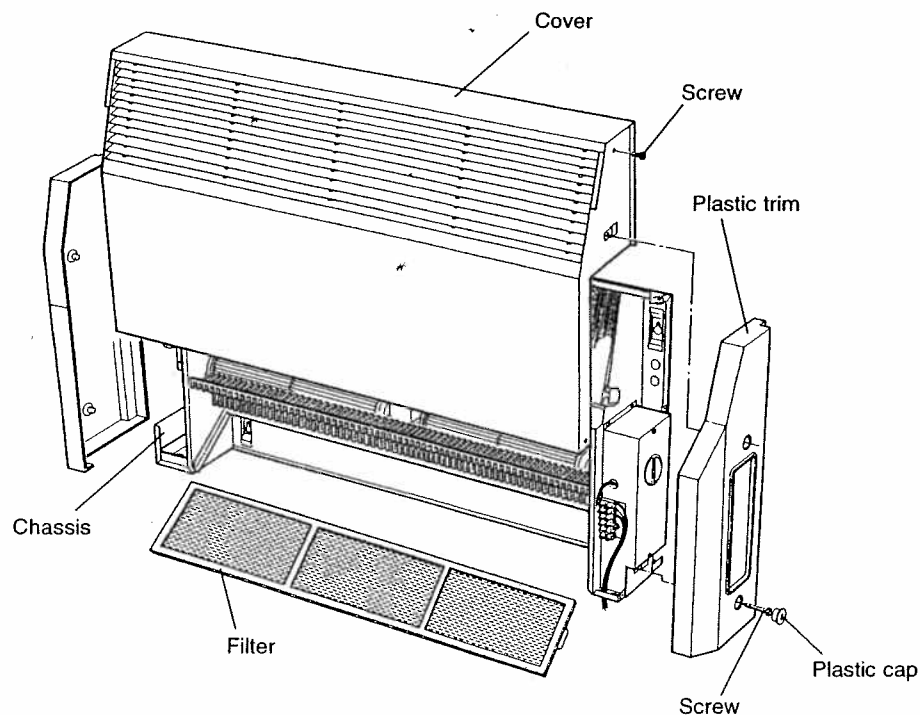

Fig. 4
1. Remove the screws from the plastic trim at both ends of the unit. Pull the trim off the ends of the unit then remove the screws securing the cover to the chassis and remove the cover, see Fig. 4.